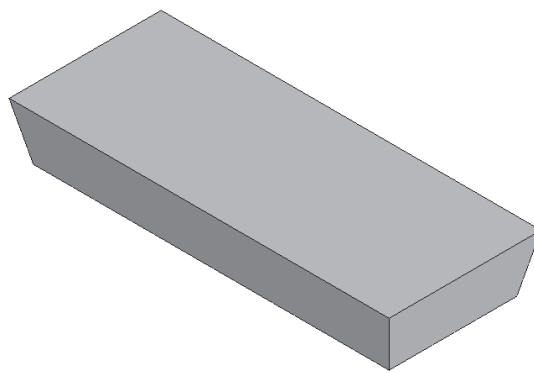

Figure 8-68 Model after adding the draft
- Add a draft to the base feature, refer to Figure 8-68.
5. Choose the **Finish** button to create the draft and then choose **Cancel** to exit this tool. The model, after adding the draft, is shown in Figure 8-68.